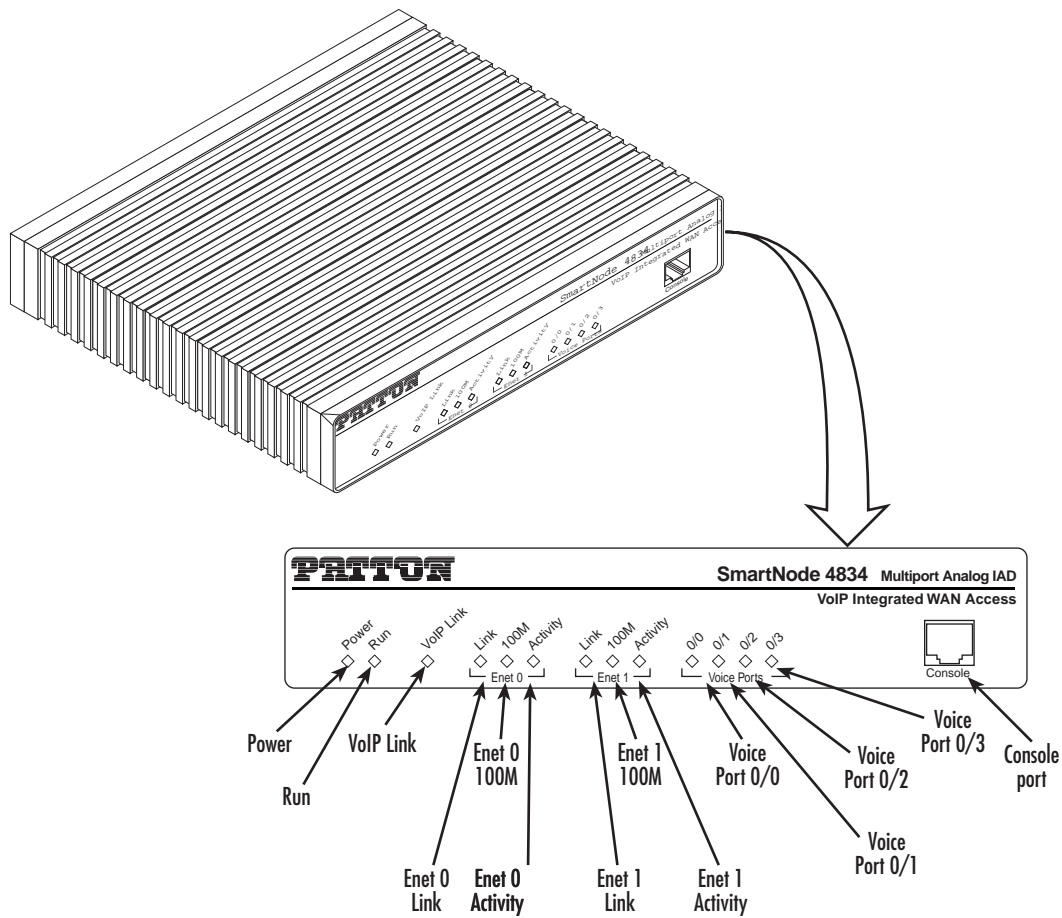

Figure 22. VoIP IAD front panel LEDs and Console port locations (SmartNode 4834 shown)
5. Verify that the green *Power* LED is lit (see figure 22).